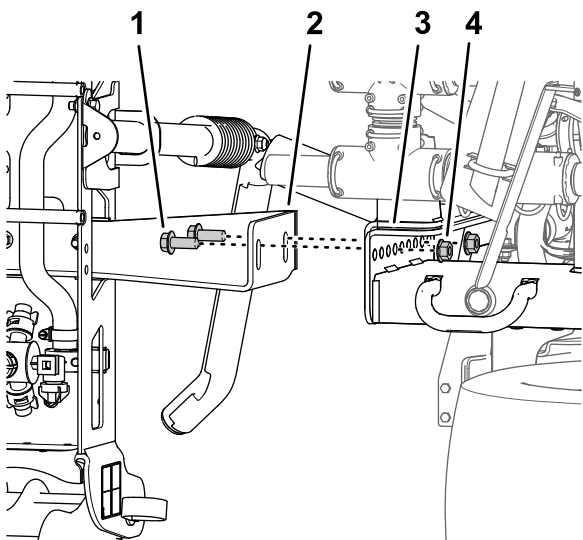

Figure 47
- 4. Remove the 4 flange-head bolts (1/2 x 1-1/4 inches) and 4 flange locknuts (1/2 inch) that secure the support brackets of the center-spray section to the mounting plate on the frame for the machine, and remove the center-spray section from the machine (Figure 47).